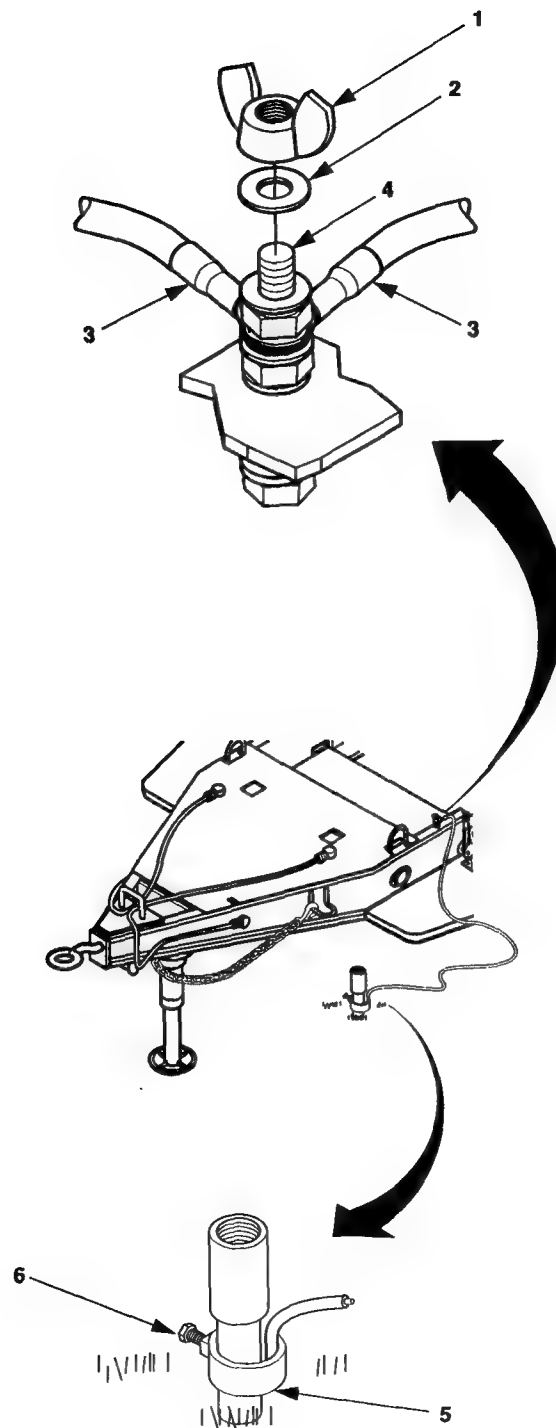

Figure 2-4. Typical Ground Rod Installations.
2-3.3 Grounding of Generator Set. Ground the equipment in accordance with Army Field Manual FM 20-31. Typical ground rod installations are shown in **figure 2-4**. If a ground rod is used, install and connect it as follows:
- (1) Remove and retain wing nut (1, figure 2-4) and washer (2) from trailer ground stud (4) and install ground cable terminal (3) to ground stud (4) .
- (2) Install washer (2) on ground stud (4).
- (3) Thread wing nut (1) on the ground stud (4) and tighten.
- (4) Insert ground cable end into ground cable clamp (5) and tighten clamp screw (6).